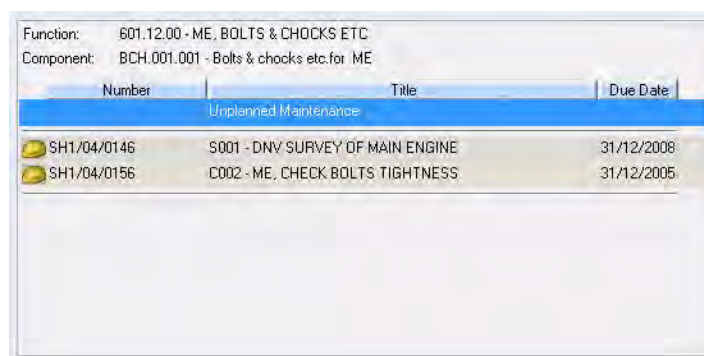

Figure 46 Selecting a Work Order to report on
- The second approach to reporting work is to select **Options > Report Work** while in the Components window with a Component selected in the list. You will enter a dialog box in which you select the work order to report on (see Figure 46). Once you have selected your work order, click **Next** to enter the Report Work window. Similarly, the Report Work command is available from the Function hierarchy Options menu.